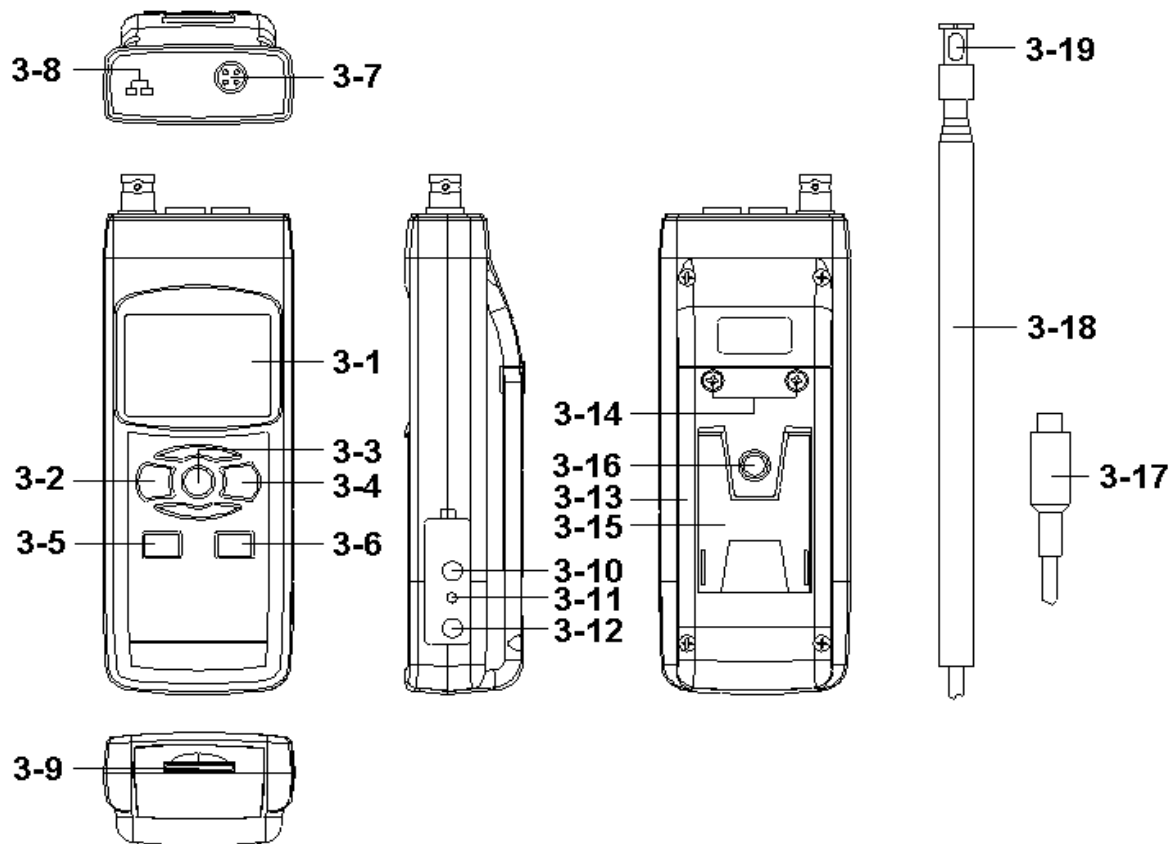

Fig. 1
1) Turn on the meter by pressing the " Power Button " (3-2, Fig. 1) momentarily.
* *Pressing the " Power Button " (3-2, Fig. 1) continuously and > 2 seconds again will turn off the meter.*
Pressing the " Function Button " (3-3, Fig. 1) continuously (not release the button), the Display will show the following text in sequence :
Until the Display show the desired mode (Function), just release the " Function Button " (3-3, Fig. 1), the meter will execute this function with default.
- 3) Plug the " Probe Plug " (3-17, Fig. 1) into the " Probe Input Socket " (3-7, Fig. 1).
Power on the meter by pressing the " Power Button " (3-2, Fig. 1) once,
- 4) Hold the " Telescope Probe " (3-18, Fig. 1) by hand and let the " Sensing Head " (3-19, Fig. 1) face against the measuring air flow source, then the Display (3-1, Fig. 1) will show air velocity directly. At the same time, the lower Display will show the air temperature value.
- 2)Plug the Thermocouple Temp. Probe (Type K Temp. probe pr Type J Temp. probe, optional) into " Type K/J Probe Input Socket " (3-8, Fig. 1)
During the measurement, press the " Hold Button " (3-3, Fig. 1) once will hold the measured value & the LCD will display a " HOLD " symbol.
- 1) The data record function records the maximum and minimum readings. Press the " REC Button " (3-4, Fig. 1) once to start the Data Record function and there will be a " REC " symbol on the display.
- a) Press the " REC Button " (3-4, Fig. 1) once, the " REC MAX " symbol along with the maximum value will appear on the display.
If intend to delete the maximum value, just press the " Hold Button " (3-3, Fig. 1) once, then the display will show the " REC " symbol only & execute the memory function continuously.
- b) Press the " REC Button " (3-4, Fig. 1) again, the " REC MIN " symbol along with the minimum value will appear on the display.
If intend to delete the minimum value, just press the " Hold Button " (3-3, Fig. 1) once, then the display will show the " REC " symbol only & execute the memory function continuously.
After power ON, the " LCD Backlight " will light automatically. During the measurement, press the " Backlight Button " (3-2, Fig. 1) once will turn OFF the " LCD Backlight " .
insert the SD card into the " SD card socket " (3-9, Fig. 1).
Press the " REC Button (3-4, Fig. 1) once , the LCD will show the text " REC ", then press the " Logger Button " (3-6, Fig. 1), the " REC " will flashing, at the same time the measuring data along the time information will be saved into the memory circuit.